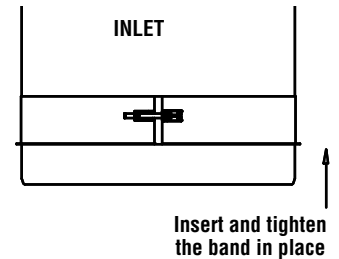

Figure 38a - Female Single wall adaptor
2. First, slide the retaining band over the system inlet and tighten it with supplied bolt. (See **figure 38a**).